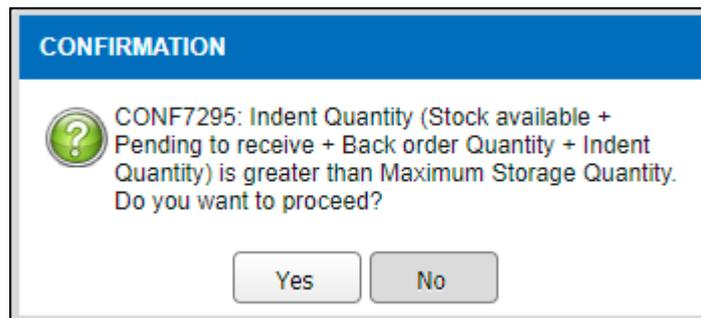

Figure 3.2-9 Alert Message
- If user enter indent quantity more than Maximum Storage Quantity. Alert message will be display in Figure 3.2-9 and user still allowed to proceed the transaction.